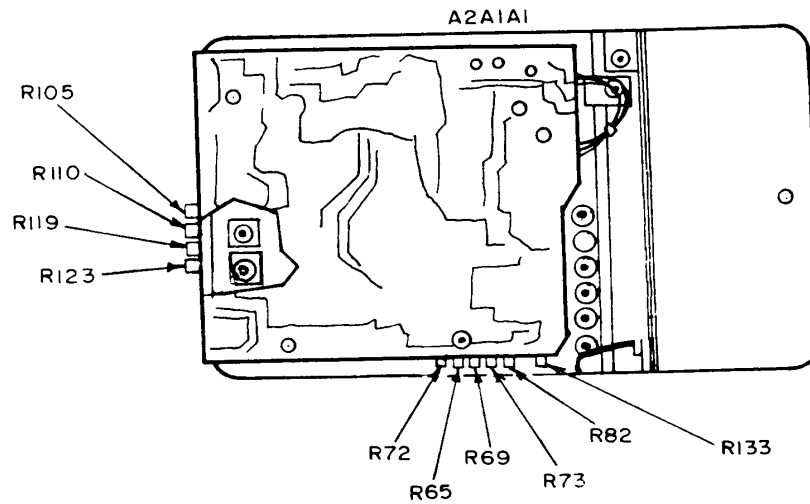

Figure 8. MM-100E multimeter - rear view.
3If out-of-tolerance, adjust dc voltage standard for 10.0000 and adjust A2A1A1R82 (fig. 8) for 10 V indication on multimeter. (R)
1If required, readjust A2A1A1R123 (fig. 8) for best in-tolerance indication (R).
(12) Set multimeter **FUNCTION** switch to **HI-Z** and **RANGE** switch to **1V**.
(13) Connect ac calibrator (A1) to multimeter **INPUT**, using cable (B8).
(14) Adjust ac calibrator frequency for 1 kHz frequency and output for a 1 V indication on multimeter. If ac calibrator does not indicate between 0.95 and 1.05 V ac, perform **b(6)** below.
(15) Repeat technique of (14) above for **RANGE** switch settings and ac calibrator frequencies listed in table 16. Ac calibrator will indicate within limits specified.
(1) Adjust A2A1A1R65 (fig. 8) for 0 indication on multimeter.
(2) Adjust A2A1A1R73 (fig. 8) for 0 indication on multimeter.
(3) Adjust dc voltage standard output for a 1.00000 indication. Adjust A2A1A1R69 (fig. 8) for a 1 V indication on multimeter (R).
(4) Adjust A2A1A1R119 (fig. 8) for  $\infty$  (infinity) on multimeter (R).
(5) Set resistance standard to 30 $\Omega$ . Adjust A2A1A1R123 (fig. 8) for 30 $\Omega$  indication on multimeter (R).
(6) Adjust ac calibrator output for a 1 V indication. Adjust A2A1A1R72 (fig. 8) for a 1 V indication on multimeter (R).
(7) Adjust A2A1A1R110 (fig. 8) for 6 dB indication on SINAD scale (R).
(8) Adjust **1 kHz** control until distortion analyzer indicates 10 percent distortion.
(9) Adjust A2A1A1R105 (fig. 8) for 10 percent indication on multimeter (R).
(10) Adjust A2A1A1R133 (fig. 8) for 60 percent indication on multimeter (R).
(1) Remove battery from TI
(2) Connect decade resistor (B10) across battery terminals.
(3) Set decade resistor for 150Ω.
(4) Connect digital voltmeter (A6) to +18V TP (fig. 8) and chassis ground, using adapter and lead (B5 and B13). If digital voltmeter does not indicate between 17.6 and 18.4 V dc, perform **b**(1) below.